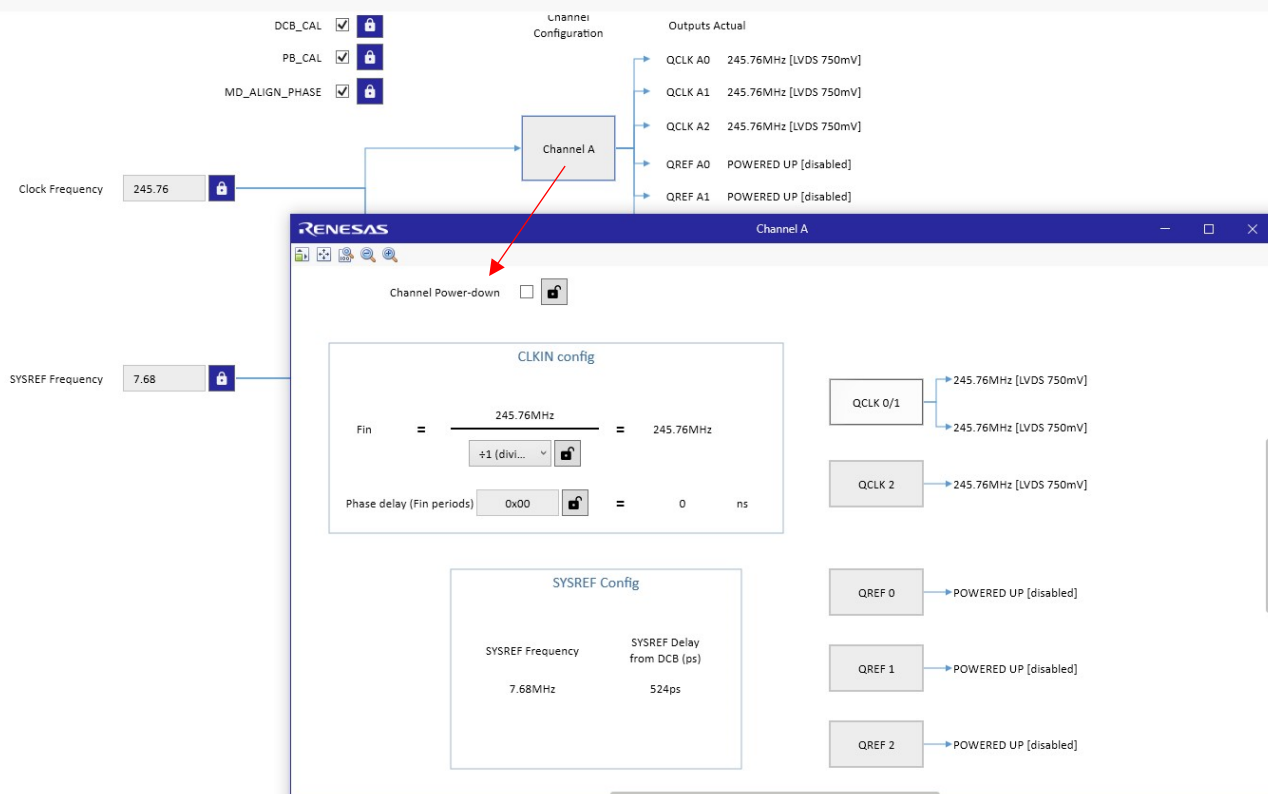

Figure 19. Output Channel Frequency and Phase Delay Setting
9. Set the clock output QCLKx output frequency and phase delay (see Figure 19 for an example). INIT_CLK is required to activate QCLKx divider and Phase Delay.